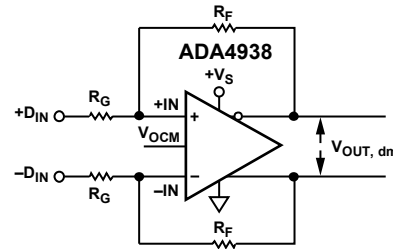

Figure 59. ADA4938-1/ADA4938-2 Configured for Balanced (Differential) Inputs
The effective input impedance of a circuit depends on whether the amplifier is being driven by a single-ended or differential signal source. For balanced differential input signals, as shown in Figure 59, the input impedance ( $R_{IN, dm}$ ) between the inputs (+DIN and –DIN) is simply  $R_{IN, dm} = 2 \times R_G$ .
**Table 10. Differential Ground-Referenced Input, DC-Coupled; See Figure 59**